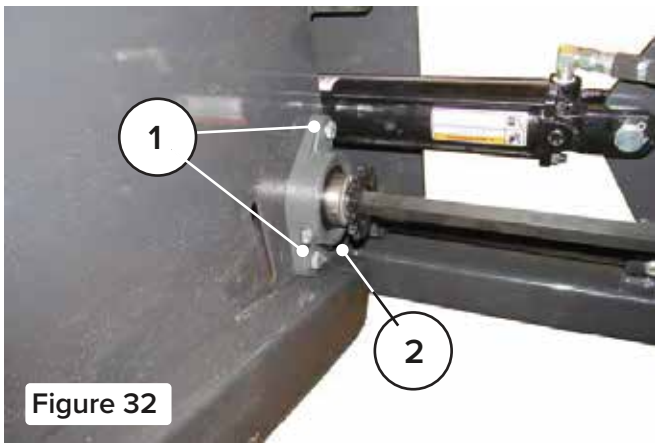

Figure 32
6. Remove the bearing mounting bolts and nuts (Item 1). [Figure 32]
7. Slide the bearing assembly (Item 2) towards the motor bearing. [Figure 32]